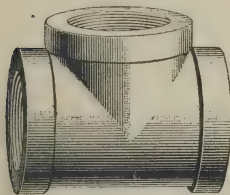

FIG. 11
**24.** In **tees**, as the name implies, the three connecting outlets form a **T**. These fittings are made in various forms and are used to take a branch pipe from a line of pipe at right angles without changing the direction of the continuous pipe. Any number of branches may be taken from a main line by screwing tees on the line. Tees are all made with right-hand threads and can be had in many different forms. The method of designating the size of a tee is to first state the size of the run and then the size of the branch. By **run** is meant a line of piping entering and leaving a fitting in the same straight line. Thus, in Fig. 11,